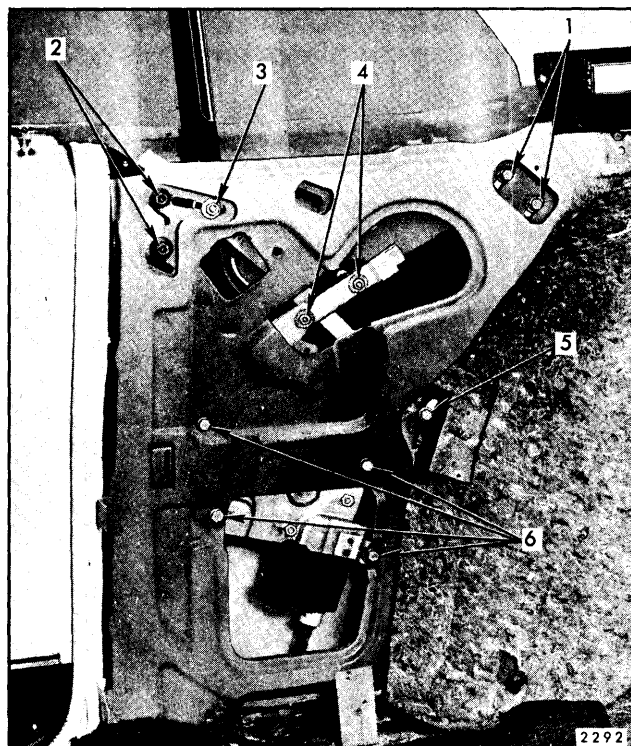

Fig. 7-24—Rear Quarter Hardware - "E" Body
1. Remove necessary trim and sealing components. With window in a full-up position, remove rear guide upper and lower attaching bolts. Disengage guide from roller on window assembly and remove guide through access hole (see Fig. 7-24).